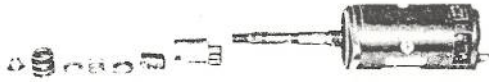

Fig. 10-29
- (2) Pull out the split pin as illustrated in Fig. 10-29 and remove the spring stopper nut and then dismount the pinion assembly.